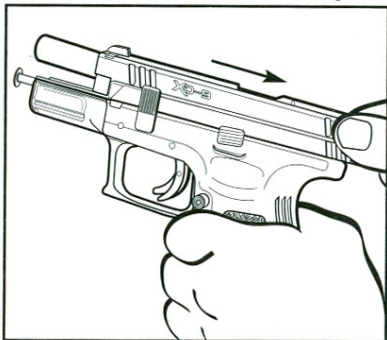

Figure 23-1
5. Pull the slide slightly to the rear to release the slide stop lever. Then allow the slide to slowly move forward until the spring tension is released. Pull the trigger with the pistol pointed in a safe direction to fully unlock the slide from the frame. (Figure 23-1.)